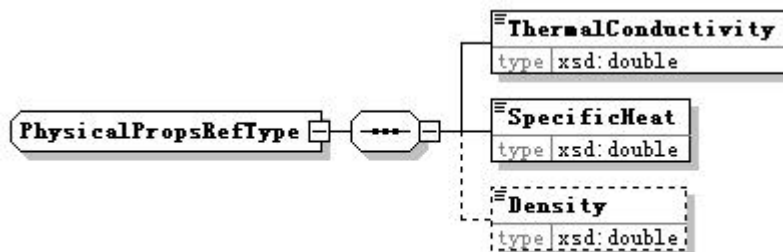

Figure 8. PhysicalPropsRefType
- **PhysicalPropsRef**[ghml:PysicalPropsRefType] (Figure 8)